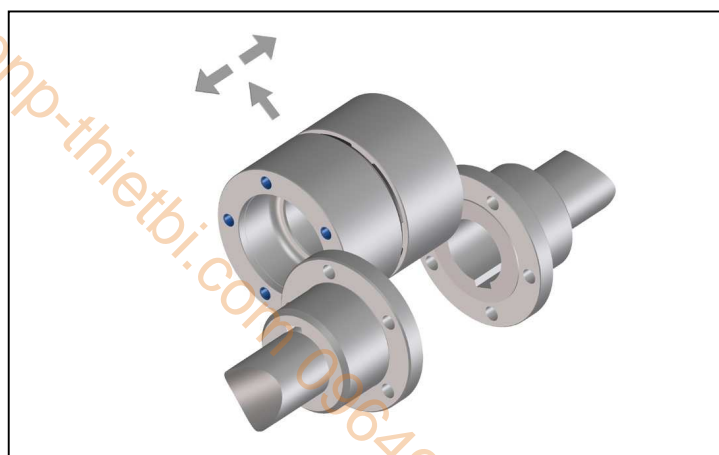

Fig. 10
- Lift-out the intermediate pieces together with the elastic intermediate ring (Figure 10).